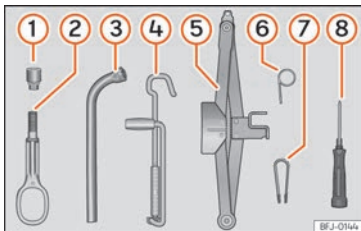

Fig. 72 Underneath the floor panel of the luggage compartment: on-board tools.
- Fit the plastic clip (vehicle tools » » » Fig. 72 ⑦) over the cap until it clicks into place » » » Fig. 73.
- Using the hexagonal socket in the wheel brace »» Fig. 72, unscrew the slackened